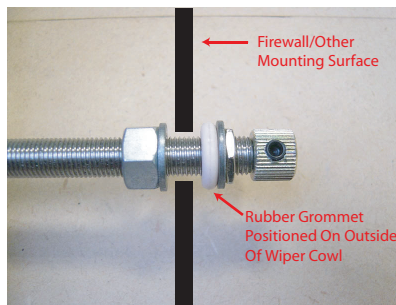

figure 2
c. To mount wiper shafts, drill a 3/8" hole for each location. Use masking tape to avoid scratching any paint. Be sure the holes drilled into the wiper cowl are at a 90° angle to the windshield. Remove splined end with allen wrench and remove nut, washer and rubber grommet. Insert wiper shaft into hole and tighten nut, washer and rubber grommet. Adjust to correct mounting depth. Shafts may also need to be shortened. Rubber grommet must be on outside to avoid damage to paint and to seal from the elements of nature. (fig. 2)